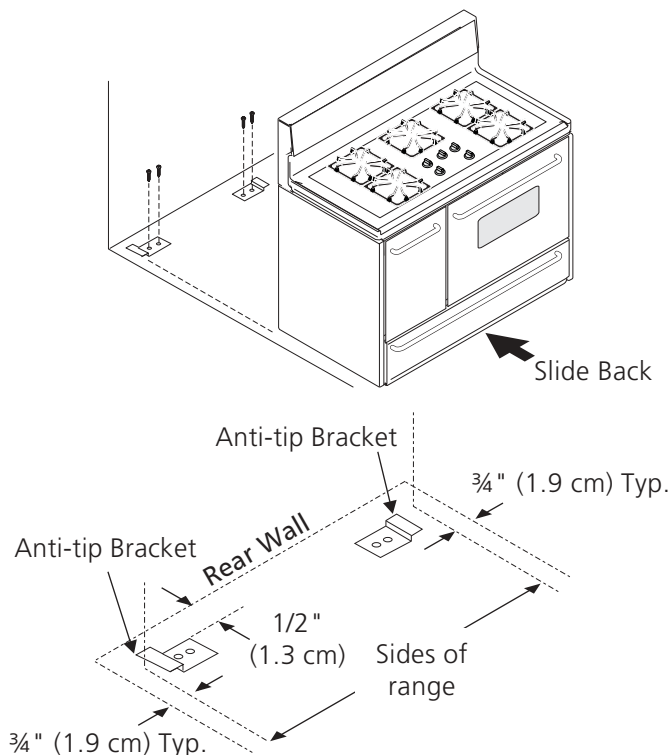

Figure 7
1. Unfold paper template and place it flat on the floor with the back and side edges positioned exactly where the back and sides of range will be located when installed. (Use the diagram in figure 7 to locate brackets if template is not available.)
3. Remove template and place brackets on floor with turned up flanges to the outside (see figure 7). Line up holes in brackets with marks on floor and attach with 4 screws provided (2 screws per bracket). Brackets must be secured to solid floor. If attaching to concrete floor, first drill 3/16" (4.8 mm) dia. pilot holes using a masonry drill bit.